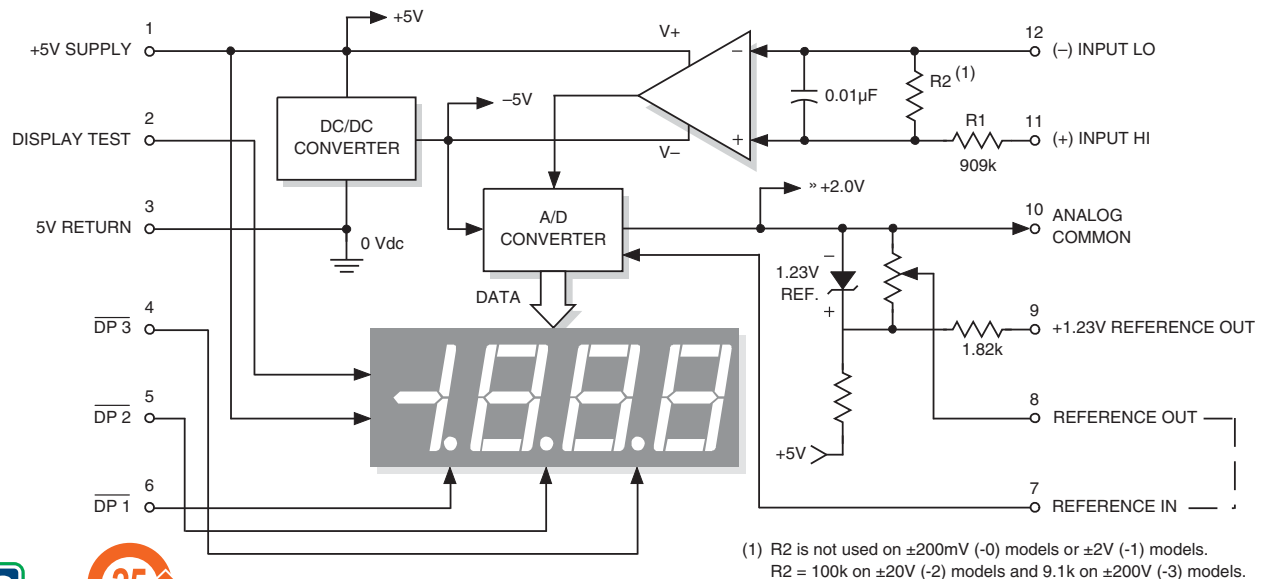

Figure 1. DMS-30PC Series simplified schematic
① Applies for transient or continuous overvoltages applied to (+) INPUT HI (pin 11) with (-) INPUT LO (pin 12) properly connected. Pin 12 is not overvoltage protected (see Figure 1). Voltages applied to pin 12 should not exceed the supply voltage.
② See Technical Notes.